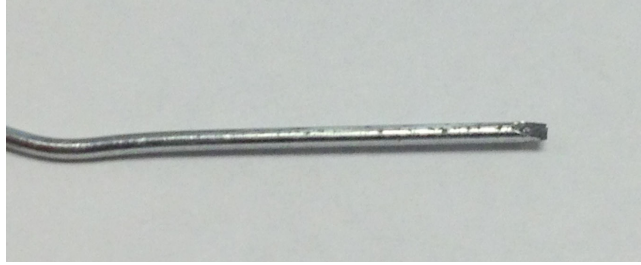

Figure 6: Grind a paper clip like this
- If the screwdriver does not fit in the area of the plug, a ground paper clip can be used to release the tabs of the plug as shown in figure 6.